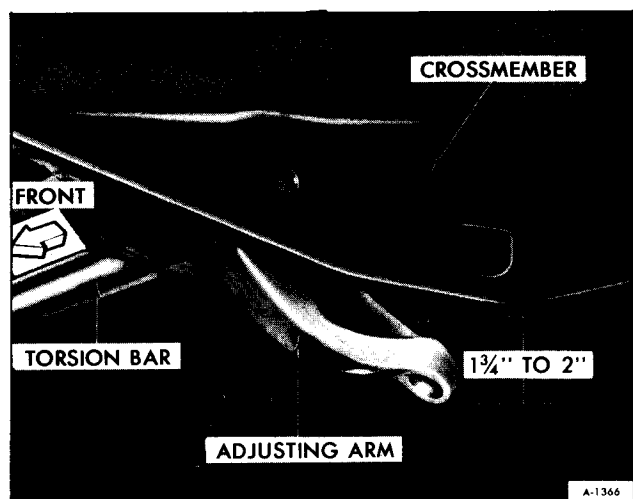

Figure 17—Positioning of Adjusting Arm
6. Insert adjusting arm into the crossmember and position 1-3/4" - 2" below the centerline of the cross-member (See figure 17). Slide torsion bar rearward until it is flush with the rear face of the adjusting arm.